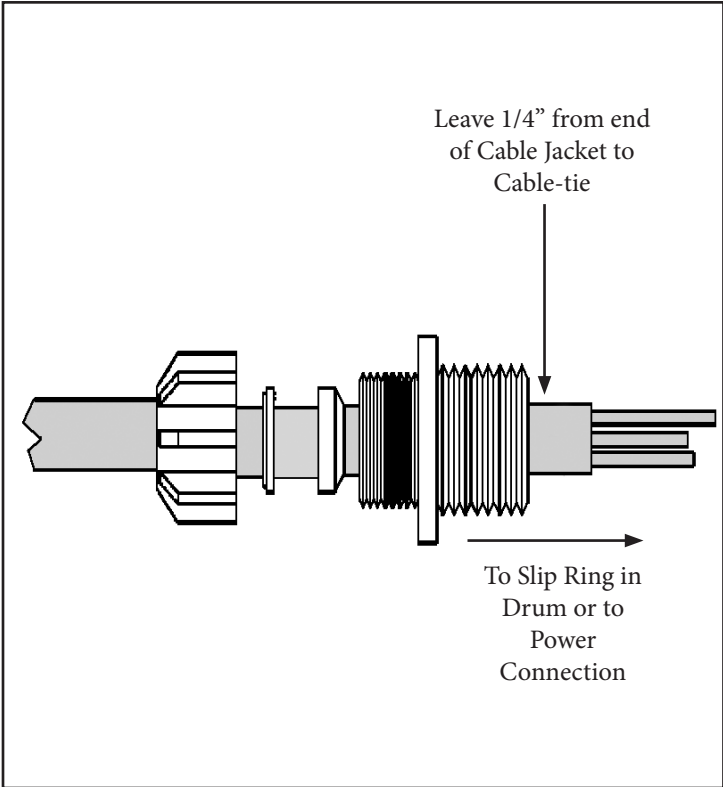

Figure 11-3 Watertight
3. Feed cable through the watertight and the drum, so that 1" of the jacket is through the watertight. Secure a cable-tie 1/4" from the end of the jacket and tighten watertight. Replace inner flange gasket if damaged. See **Figure 11-3**.